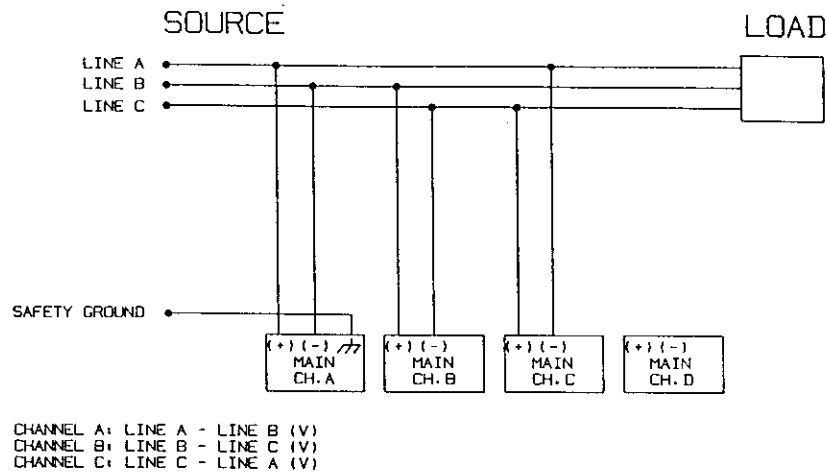
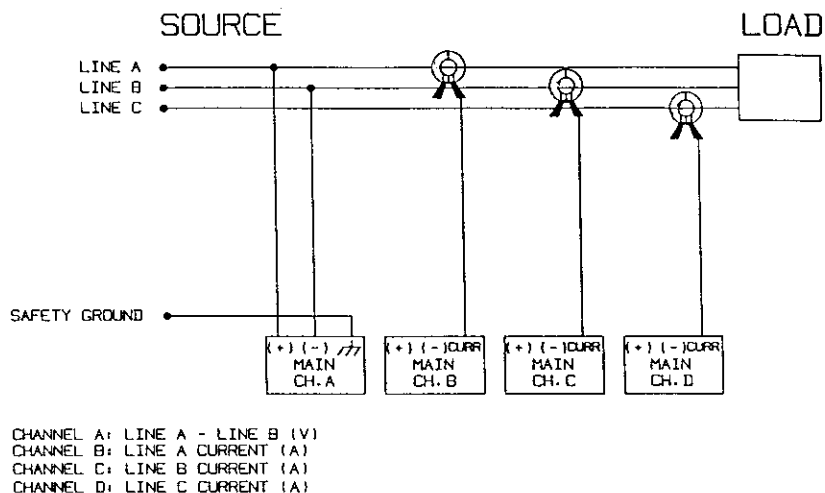

Figure 2-6. 480 VAC Three-Phase Delta with Phase to Phase Connections
Figure 2-7. 240 VAC Three-Phase Delta with Three Phase Current Connections (0.5 Amp Isolated Termination Box)
- The 658 can monitor Line A-to-Line B, Line B-to-Line C, and Line C-to-Line A voltages in a 3-phase "delta" system (illustrated in figure 2-6). This application would use three of the four Main channels (channels A, B, and C in the illustration). You could also monitor 3-phase current on channels B, C, and D while using channel A as the synchronization channel (illustrated in figure 2-7).
NOTE: The example above displays the system default settings of Main Channel Setups screen number 16. These settings are also valid for the configuration in Figure 2-7.